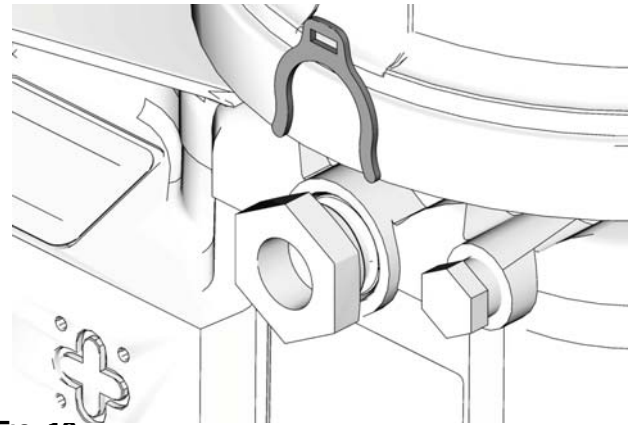

FIG. 12
Pump volume control is set using either no (0) spacers, 1 or 2 spacers (FIG. 12).